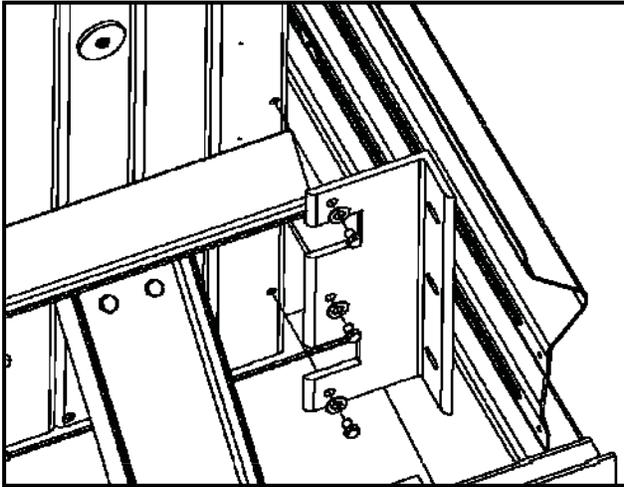
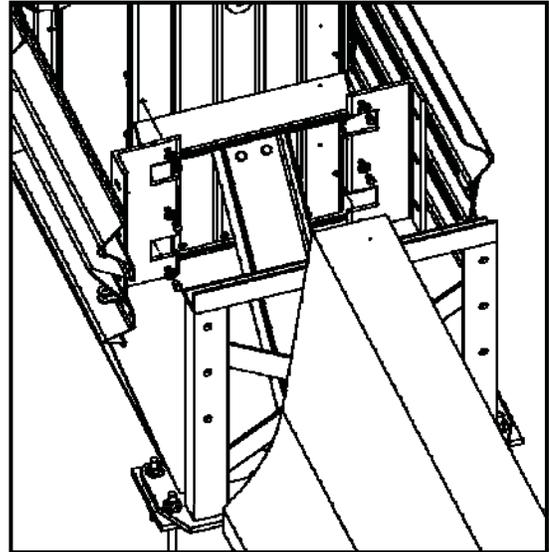
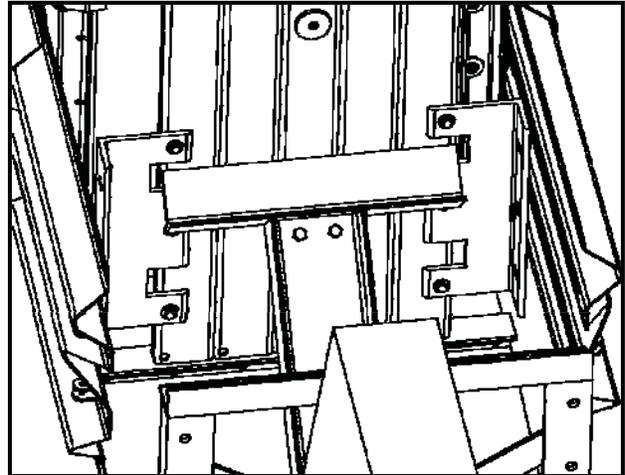

Figure 19: Rear Hardware Attachment
Figure 20: Identifying Backstop Mounting Brackets
Figure 22: Installed Mounting Brackets
Install the two Backstop Mounting Brackets (3) to the rear of the Compressor Backstop as seen in Figure 19 using bolts (16), nuts (18), and washers (17). Note the bolt head is facing the rear as observed in Figures 20 and 21 below. The installed Backstop Mounting Brackets (3) can be seen in Figure 22.